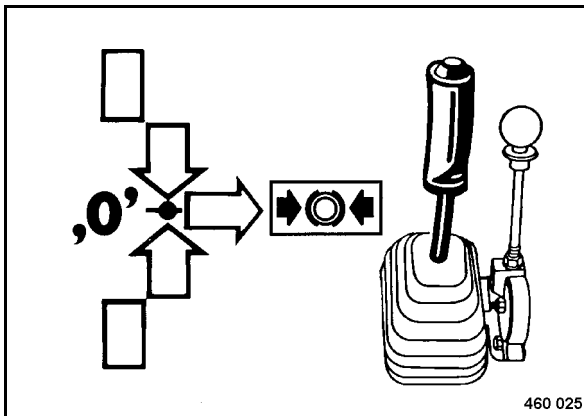

Fig. 37
- Check, whether the travel lever (Fig. 37) is engaged to the right in brake position.